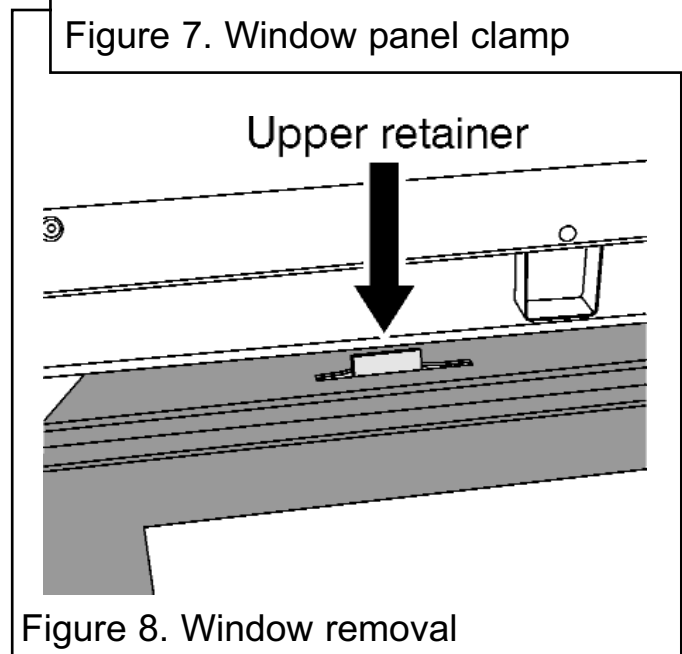

Figure 8. Window removal
2. With both clamps released, gently pull the base of the window panel forward. Hold the window panel base and lift upward until clear of the two upper window retainers (See figure 8).